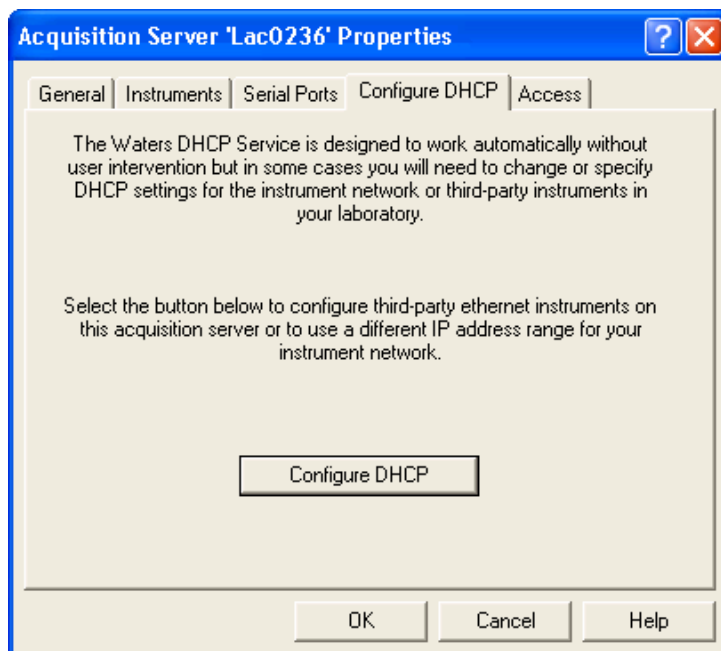
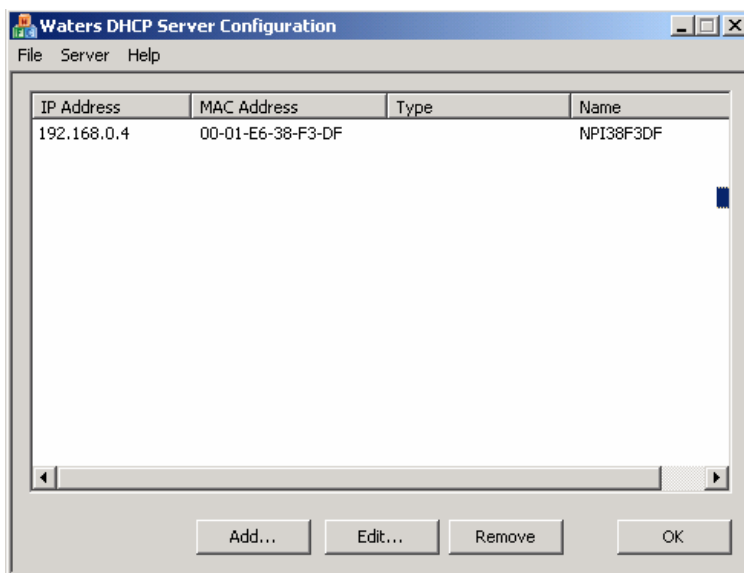

Figure 1: Acquisition Server Properties Page
Figure 8: Waters DHCP Server Configuration Page (detector entry is not fully configured and does not have 'A1100' specified)
3. Right-click on the acquisition server that has the instrument network card that you need to configure and select **Properties**. The Acquisition Server Properties page appears (Figure 1).
13. Click **Cancel** to return to the Waters DHCP Server Configuration page (Figure 8). This page should list the IP address of the A1100 detector. This is because
18. If you are adding another A1100 system, physically connect it as described at the beginning of this procedure. Select the **Configure DHCP** tab (Figure 1) and select the **Configure DHCP** button. The Waters DHCP Server Configuration page appears (Figure 8) and lists the IP Address for the newly added A1100 detector. Return to step 14 and continue this procedure.